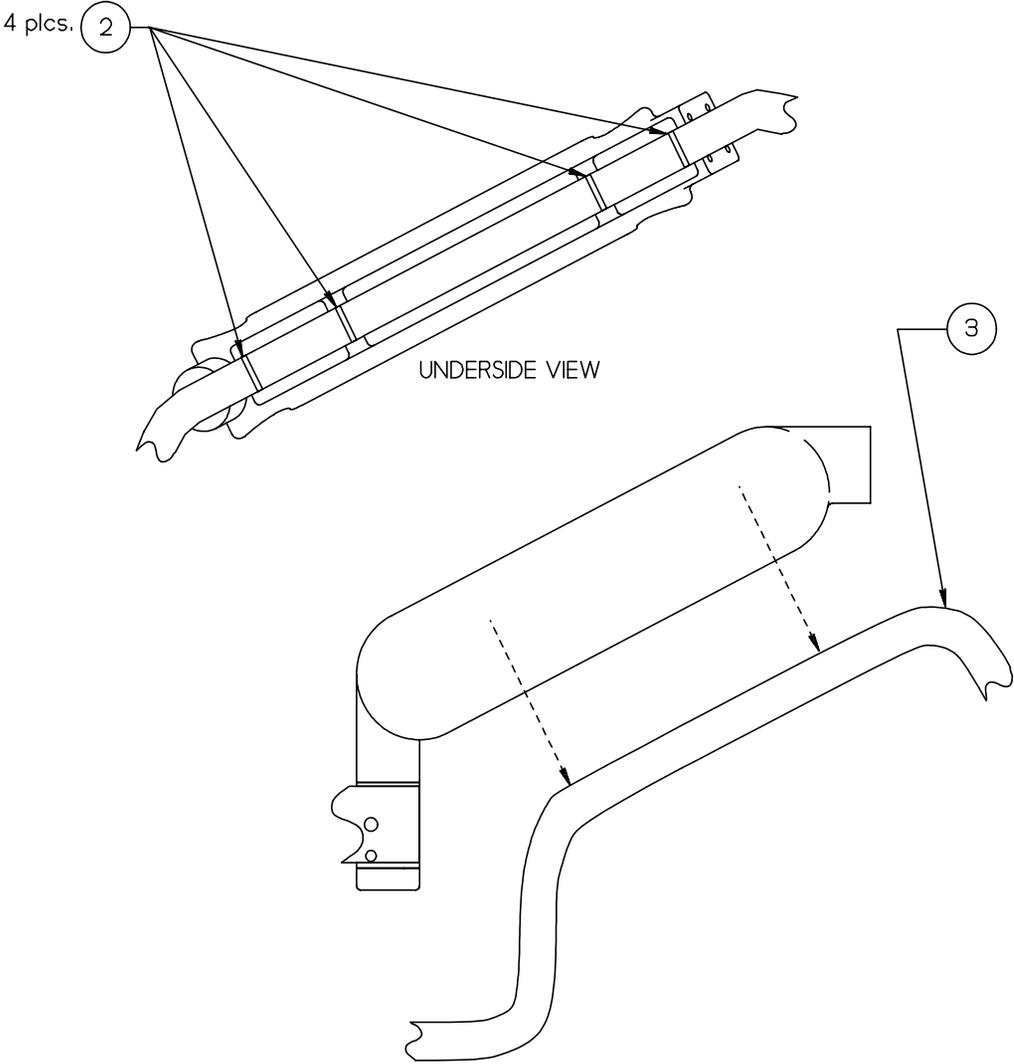

Figure 6
2. Detach the Arm Cable from the 4 nylon cable clamps on the underside of the Secondary Arm. See Figure 6 (next page).
3. Pull the Arm Cable out from the underside of the Secondary Arm. See Figure 6 (next page).
10. Detach the Arm Cable from the 2 circular nylon cable clamps on the underside of the Secondary Arm, as shown in See Figure 6 previously. Then, detach the cable from any other clamps and remove any plastic tie-wraps that secure the cable to the Secondary Arm.
11. Pull the Arm Cable out from the underside of the Secondary Arm, as shown in Figure 6 previously.